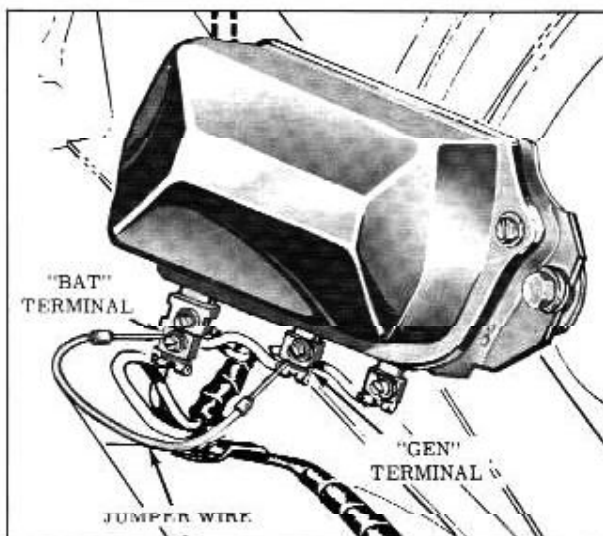

Fig. 13-30 Polarizing Generator
7. Polarize the generator by momentarily connecting a jumper wire between the "BAT" and "GEN" terminals on the regulator as shown in Fig. 13-30.